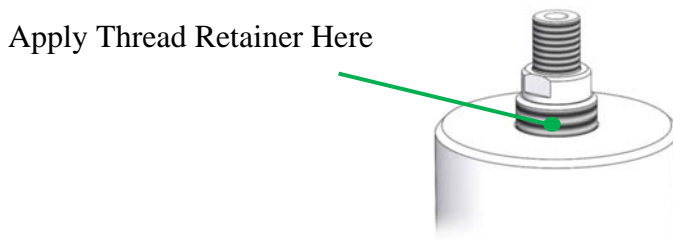

Figure 32: Thread Retainer on Center Bushing
7. Apply a small amount of high strength thread retainer on the threads of the center bushing only. See Figure 32.